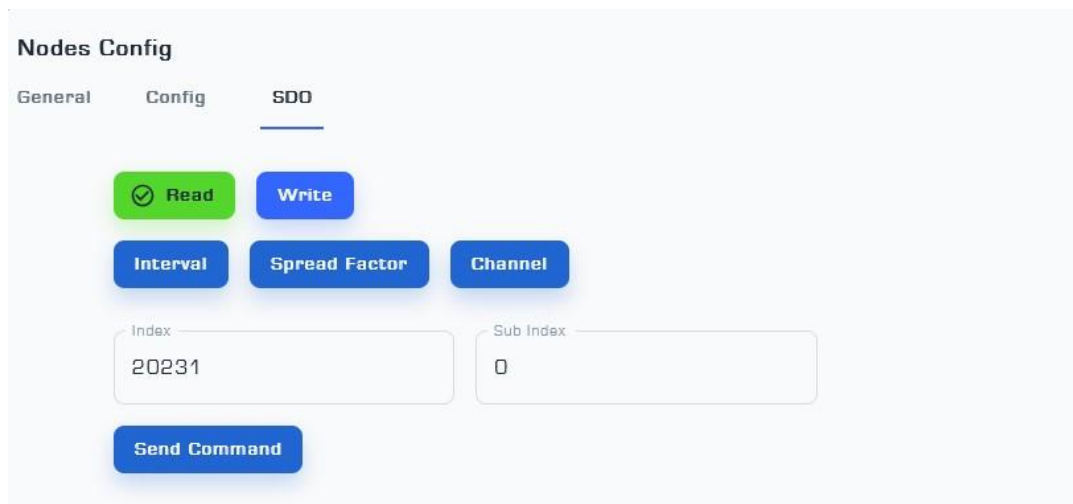

Figure 7: SDO Menu from Node Setting page
- The SDO menu is used to change the parameters of Interval 1, Spread Factor, and Channel2 (Figure 7).